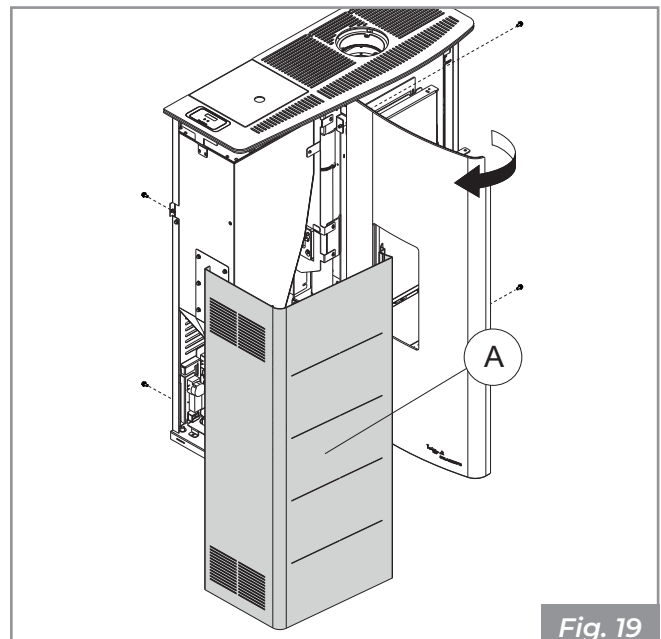

Fig. 19
- Open the door and turn the screws to remove the left side (**A** - **Fig. 19**).